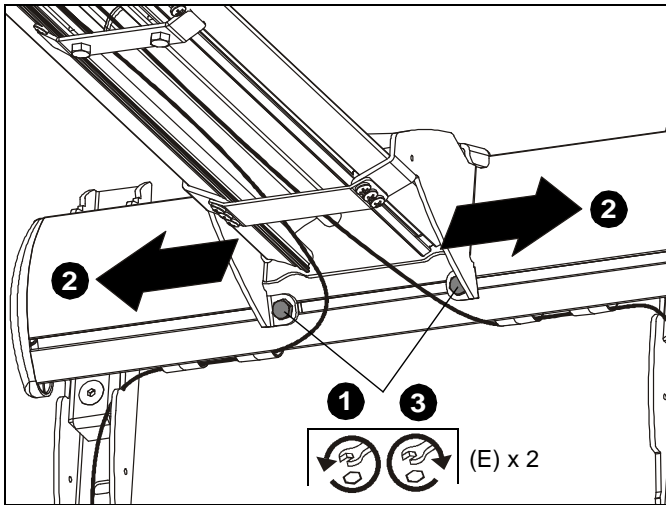

Figure 40
1. Loosen two 1/4-20 x 5/8" hex head cap screws (E) on underside of mounting bracket. (See Figure 40)
2. Adjust projector arm laterally to desired position. (See Figure 40)
3. Tighten two 1/4-20 x 5/8" hex head cap screws (E) loosened in Step 1. (See Figure 40)